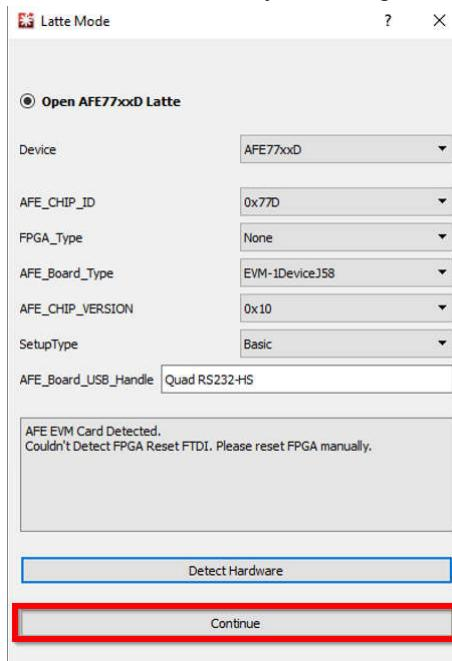

Figure 3-3. Launching AFE77xxD Latte Software
1. Open the AFE77xxD GUI version 0.4. Make sure it looks like Figure 3-3, then click Continue. The “Couldn’t Detect FPGA Reset FTDI. Please reset FPGA manually.” message is expected and can be ignored.